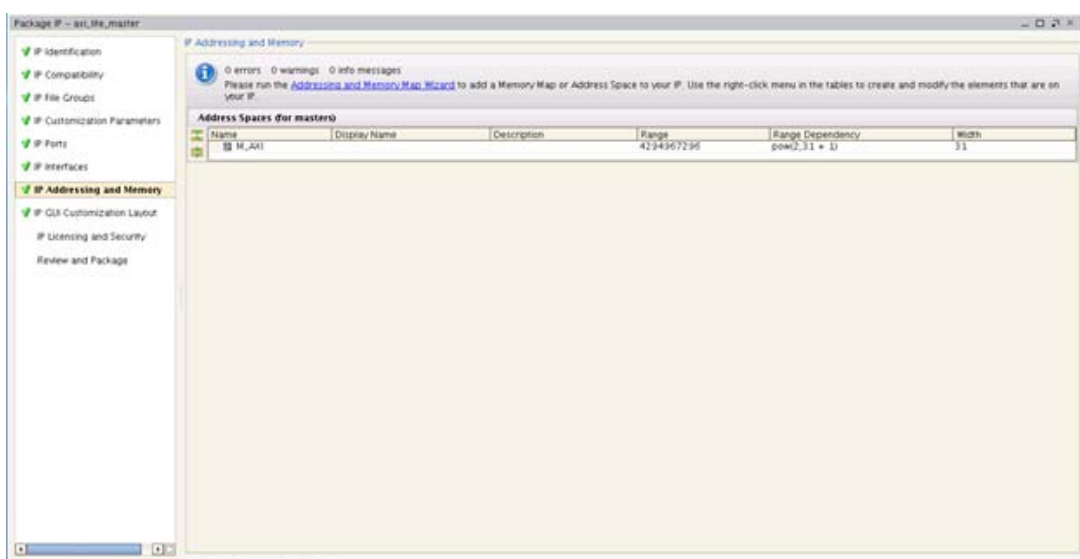

Figure 18: IP Addressing and Memory for AXI4-Lite Master
2. Select **IP Addressing and Memory**. The AXI4-Lite Master IP can access up to 4 GBytes of address. This value is shown in Figure 18 in the range field.